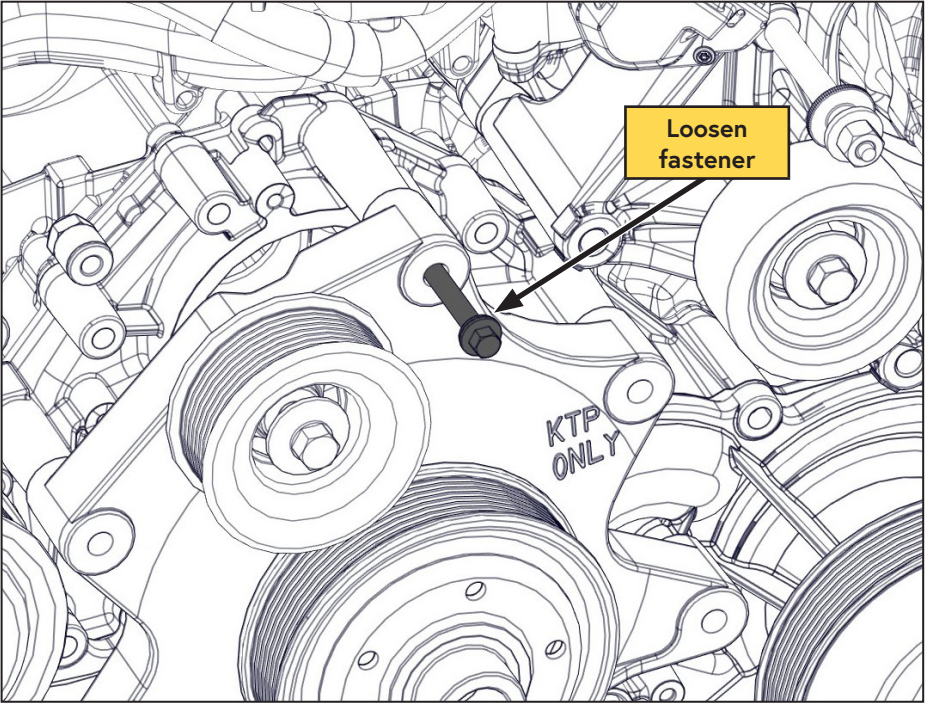

Figure 4 — Preparing for compressor installation
- Loosen the indicated "captive" fastener (Figure 4).